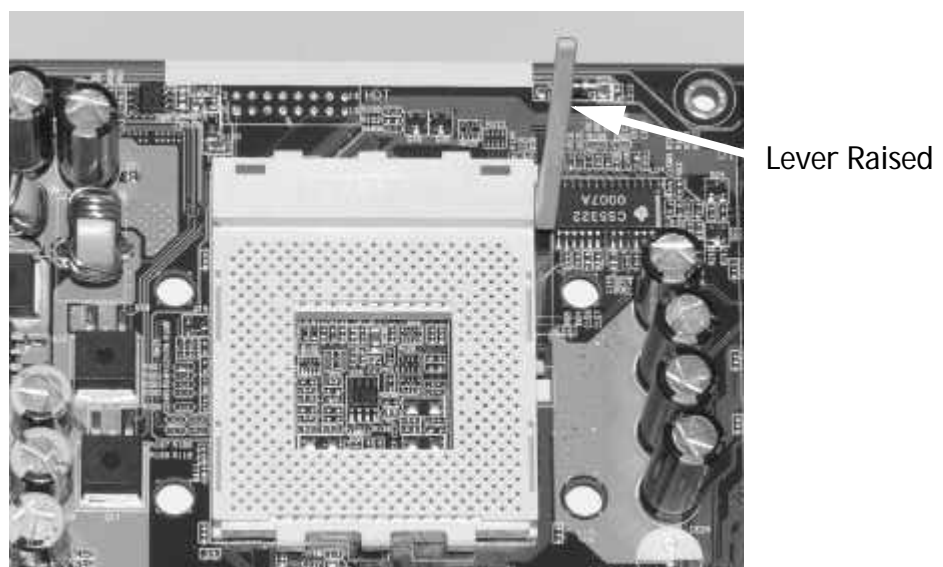

Figure 2. Processor Socket with Lever Raised
2. Figure 2 shows the release lever raised completely. The lever must be in a fully raised position before the processor can be installed.